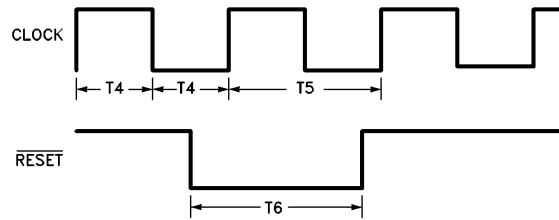

FIGURE 3. Clock and Reset Timing
**CLOCK AND RESET TIMING** (See Figure 3)